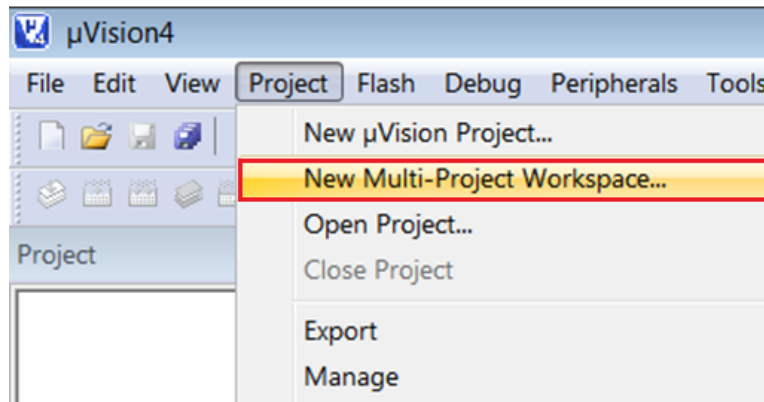
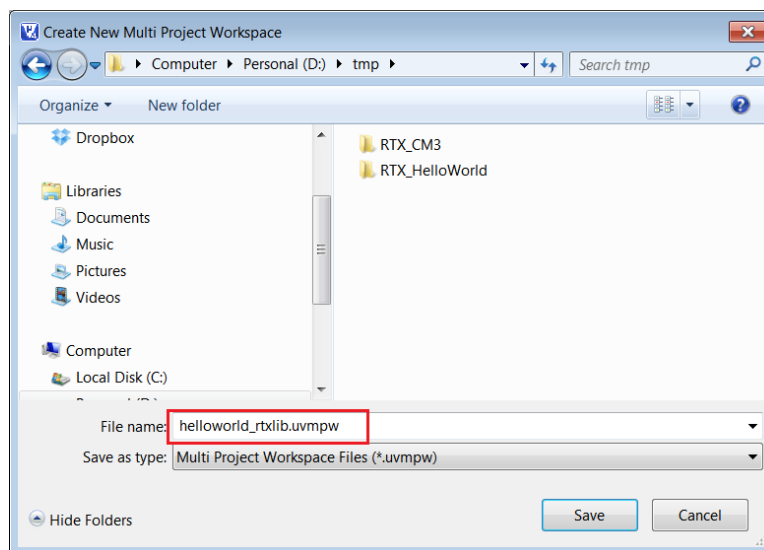

Figure 2.18: Keil IDE: Create New Multi-Project Workspace
Figure 2.19: Keil IDE: Naming a New Multi-Project Workspace
2. Click Project → New Multi-Project Workspace (see Figure 2.18). A new window appears to ask you to give a name for the multi-project workspace and let's call it `helloworld_rtxlib.uvmpw` (see Figure 2.19) and press the Save button.